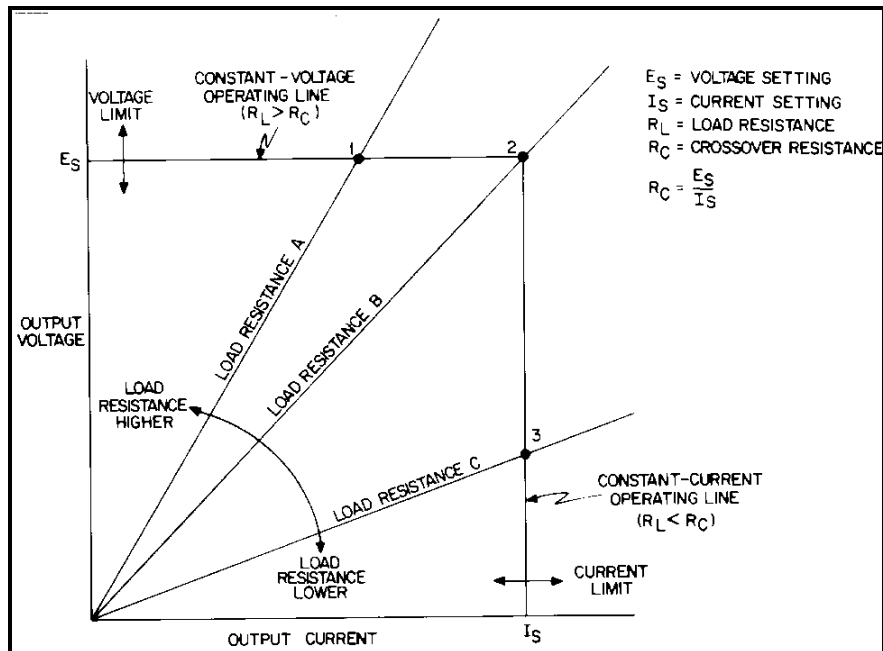
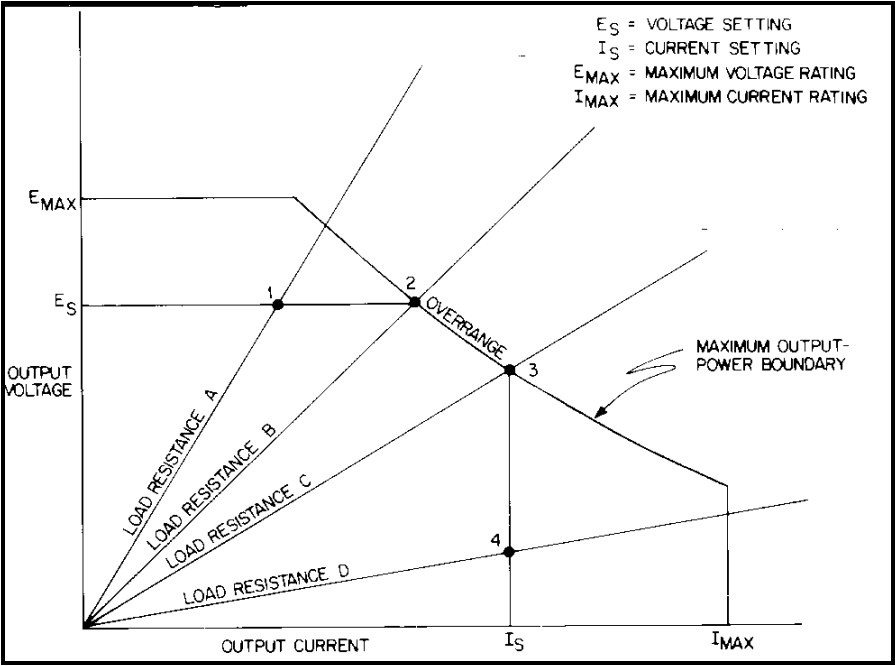

Figure 3-2. Determining Operating Point
Figure 3-3. Overrange Operation
The power supply can operate as a constant voltage (CV) or constant current (CC) source over a wide range of output voltage and current combinations. The specifications table contains a graph showing the overall output range of the power supply. Figure 3-2 shows a rectangular operating locus that is defined by voltage and current settings of the power supply. The point on that locus at which the power supply actually operates is determined by the load resistance. Three load-resistance lines are shown on Figure 3-2. The line representing load resistance A, the highest load resistance shown on the graph, crosses the operating locus at point 1. Point 1 is on the part of the operating locus defined by the voltage setting, so the power supply operates in CV mode.
In Figure 3-2 the entire rectangular operating locus falls within the output range of the power supply. Figure 3-3 shows a situation in which the voltage and current settings are high enough that the rectangular operating locus is cut off by the maximum output power boundary of the power supply. For the load resistance A, the power supply operates in CV mode at the voltage and current values for point 1. Similarly, for load resistance D the power supply operates in CC mode at point 4.